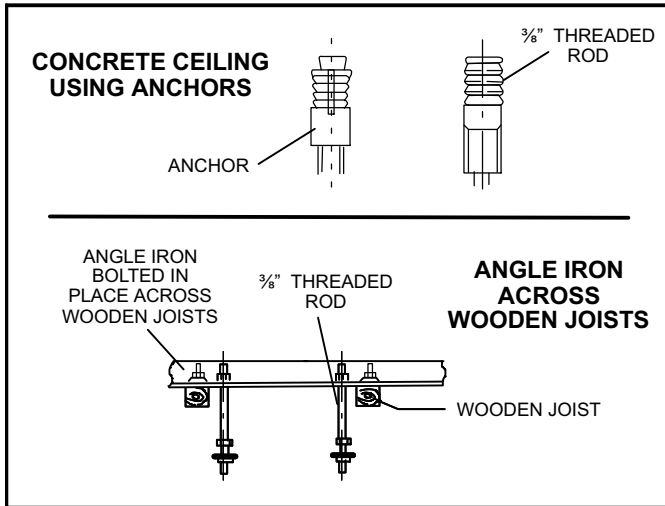

Figure 2. Suspending Methods
If the structural ceiling is constructed of concrete, install anchors to accept four $\frac{3}{8}$ " threaded rods to suspend the indoor unit. If the structural ceiling includes wooden joists, use angle iron or Unistrut channel fixed securely in place to accept the $\frac{3}{8}$ " threaded rods. See figure 2.
- 3 - Slide one nut and one washer onto each threaded rod. Use electrical tape to keep the washer from falling off. Position the nuts slightly above the final resting place of the four suspension brackets. See figure 2.